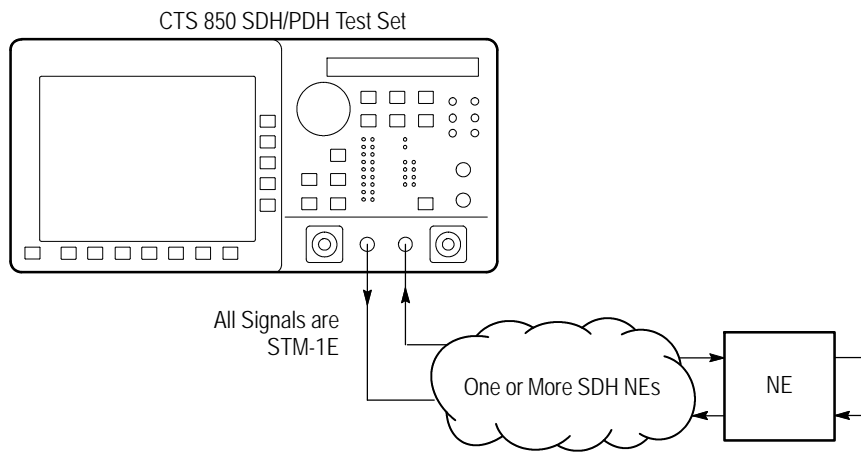

Figure 3 2: Setup to Check a Transmission Link
1. Connect the CTS850 to a network as shown in Figure 3 2.